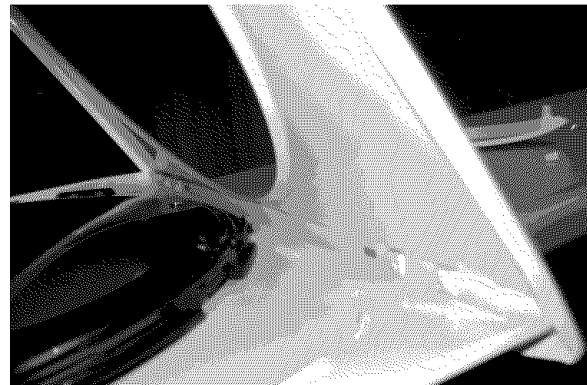

Figure 6
7. Separate the outer door from the inner door assembly with a putty knife or flat screw driver. (Figure 6)